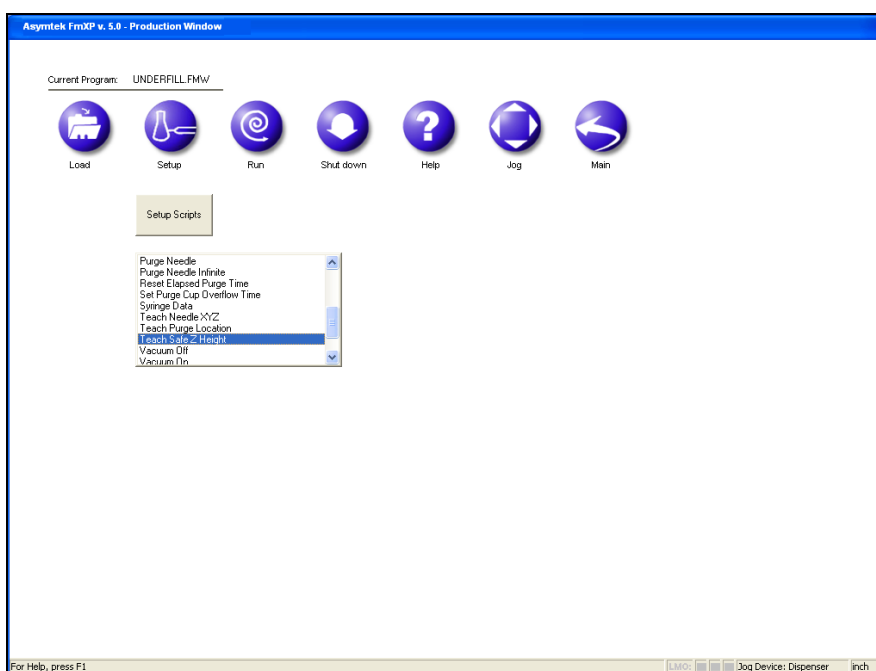

Figure 3-4 Production Window
2. In the Production Window, click on the **Setup** button (Figure 3-4).